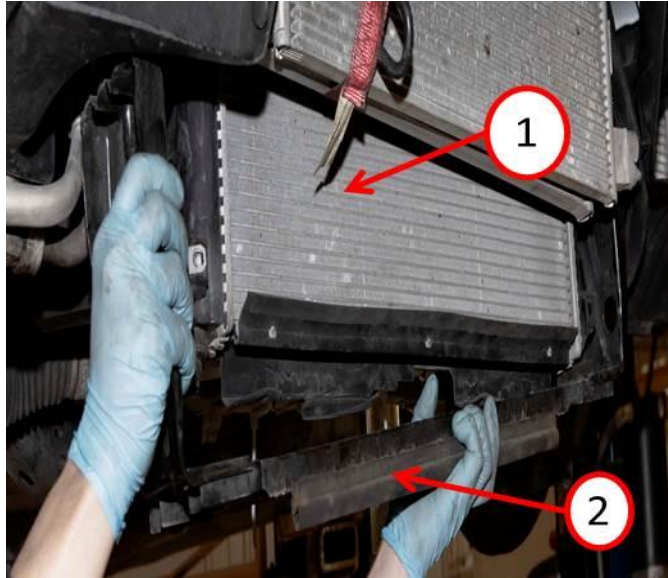

Fig. 16 Radiator Lower Support
28. Remove the lower support bracket (2) from the radiator (1) (Fig. 16).
32. Install the lower radiator support bracket (Fig. 16).